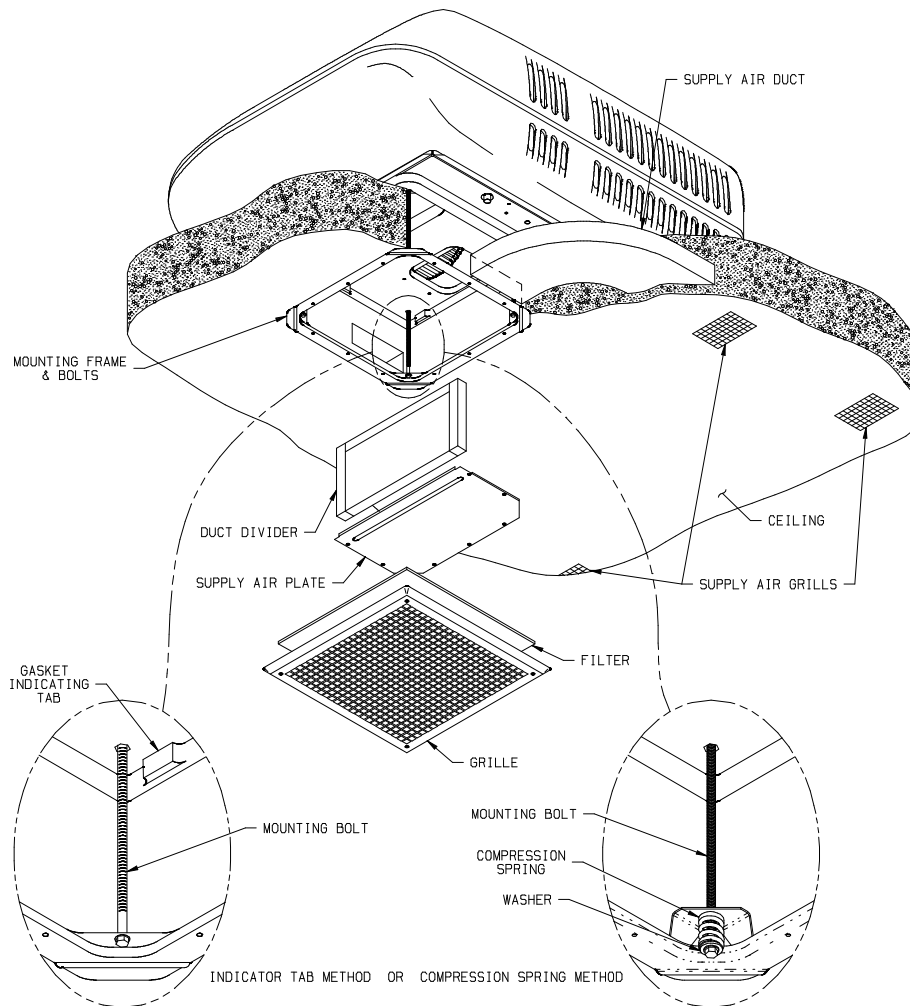

FIGURE 1
1. The field fabricated supply ducting must attach to both sides of the ceiling plenum. A minimum of two ducts are required, with one duct attached to each side of the plenum (See Figure 1).
Mounting (Refer to Figure 1)
2. Position the mount frame into the ceiling opening (See Figure 1).
3. Using the four bolts provided, secure the mount frame to the roof top unit. The four mounting bolts are to be applied up through the bottom of the mount frame and into the bottom of the roof top unit. Some models include compression springs that should be tightened just until springs achieve closure (See Figure 1).
Refer to Figure 1